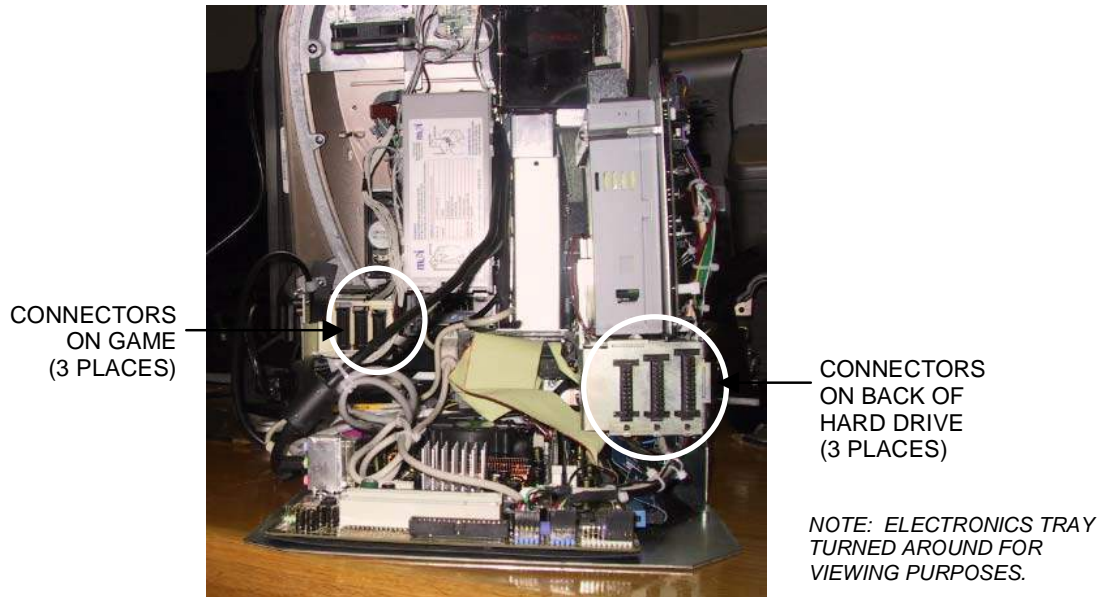

FIGURE 12 - CONNECTORS ON BACK OF HARD DRIVE BRACKET AND WALL OF GAME
6. Slide the electronics tray back into place, making sure that the connectors on the back of the hard drive bracket click into the connectors on the wall of the game, if applicable (see Figure 12). If you disconnected three connectors from the electronics tray to the game (see Figure 5), reconnect them. Secure the tray by screwing in the thumbscrew. See Figure 4.